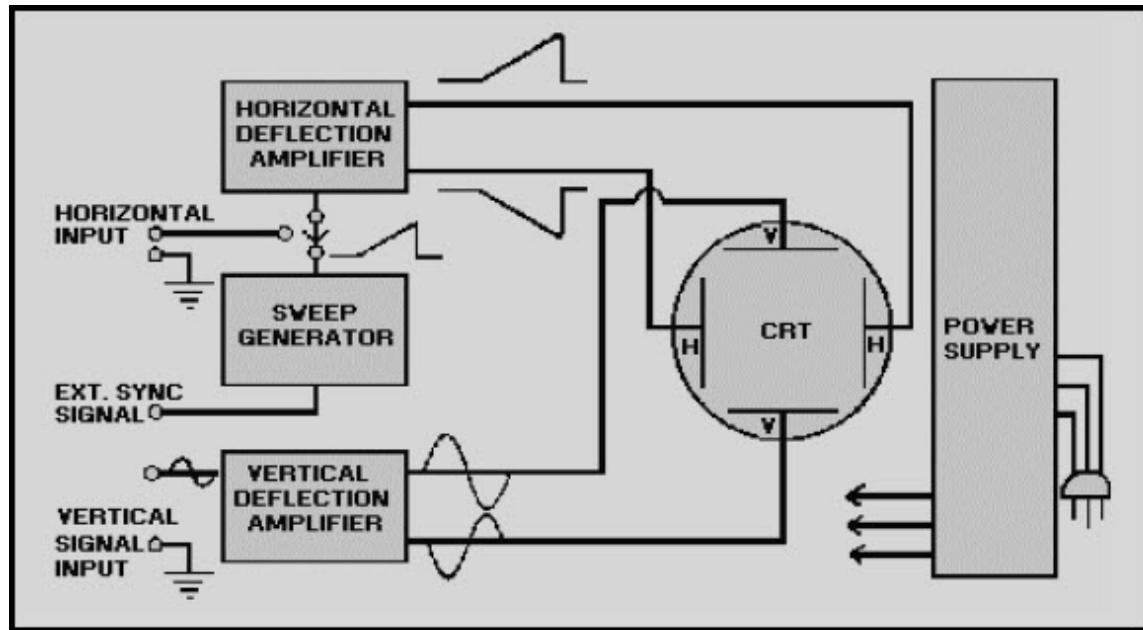

Figure 6-13 Block diagram of an oscilloscope
There are many different types of oscilloscopes. They vary from relatively simple test instruments to highly accurate laboratory models. Although oscilloscopes have different types of circuits, most can be divided into the basic sections shown in figure 6-13: (1) a CRT, (2) a group of control circuits that control the waveform fed to the CRT, (3) a power supply, (4) sweep circuitry, and (5) deflection circuitry.